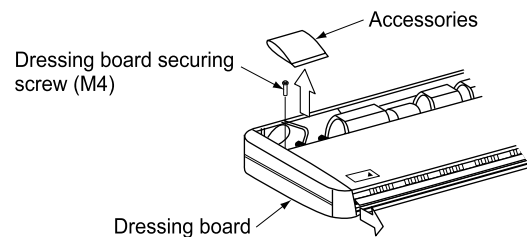

Fig. 5
- Remove the side panel fixing screw 1) and pull to the front direction (arrow direction) to remove. (Refer to Fig. 5)